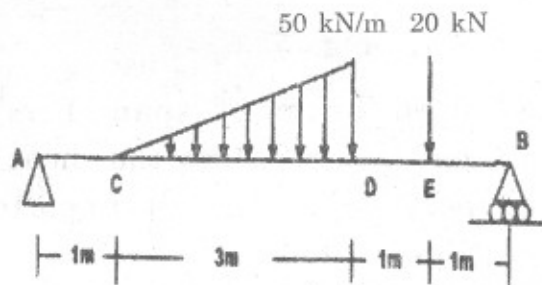

Fig. 5
4. (a) Draw S.F.D and BMD for the beam shown in Fig. 5. Indicate the numerical values at all important sections. Find the positions of contra flexure, magnitude and position of maximum BM : [9]